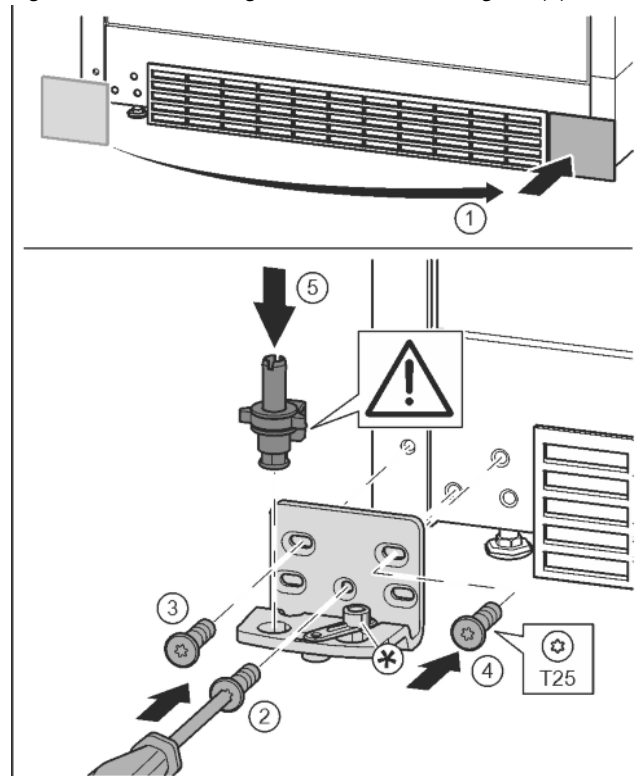

Fig. 14
- ▶ Remove the cover and fix it on the other side. Fig. 14 (1)
- ▶ Place the bearing bracket on the other side and screw in with the aid of a T25 screwdriver. Start with screw 2 at the bottom in the middle. Fig. 14 (2)
- ▶ Screw in screws 3 and 4. Fig. 14 (3, 4)
- ▶ Insert the bearing pin completely. Make sure that the catch mechanism is pointing to the rear. Fig. 14 (5)